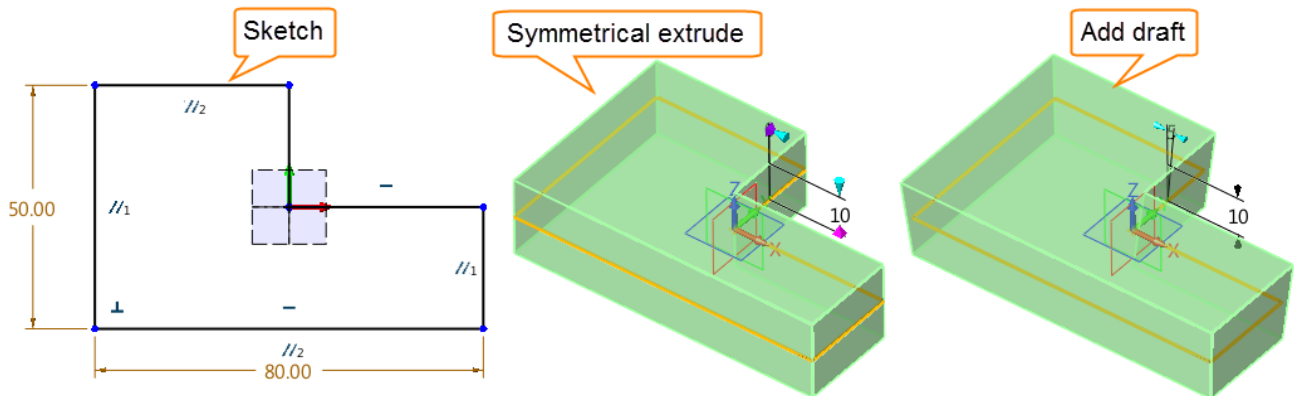

Figure17 Symmetrical Extrude with Draft
STEP 02 Select the sketch as the profile, and define the start position and end position. The symmetrical type is used in the Figure17.
STEP 03 Define other parameters, such as draft angle, see the Figure17.
Enter the draft angle if desired. Positive and negative values are acceptable. See the Figure17.